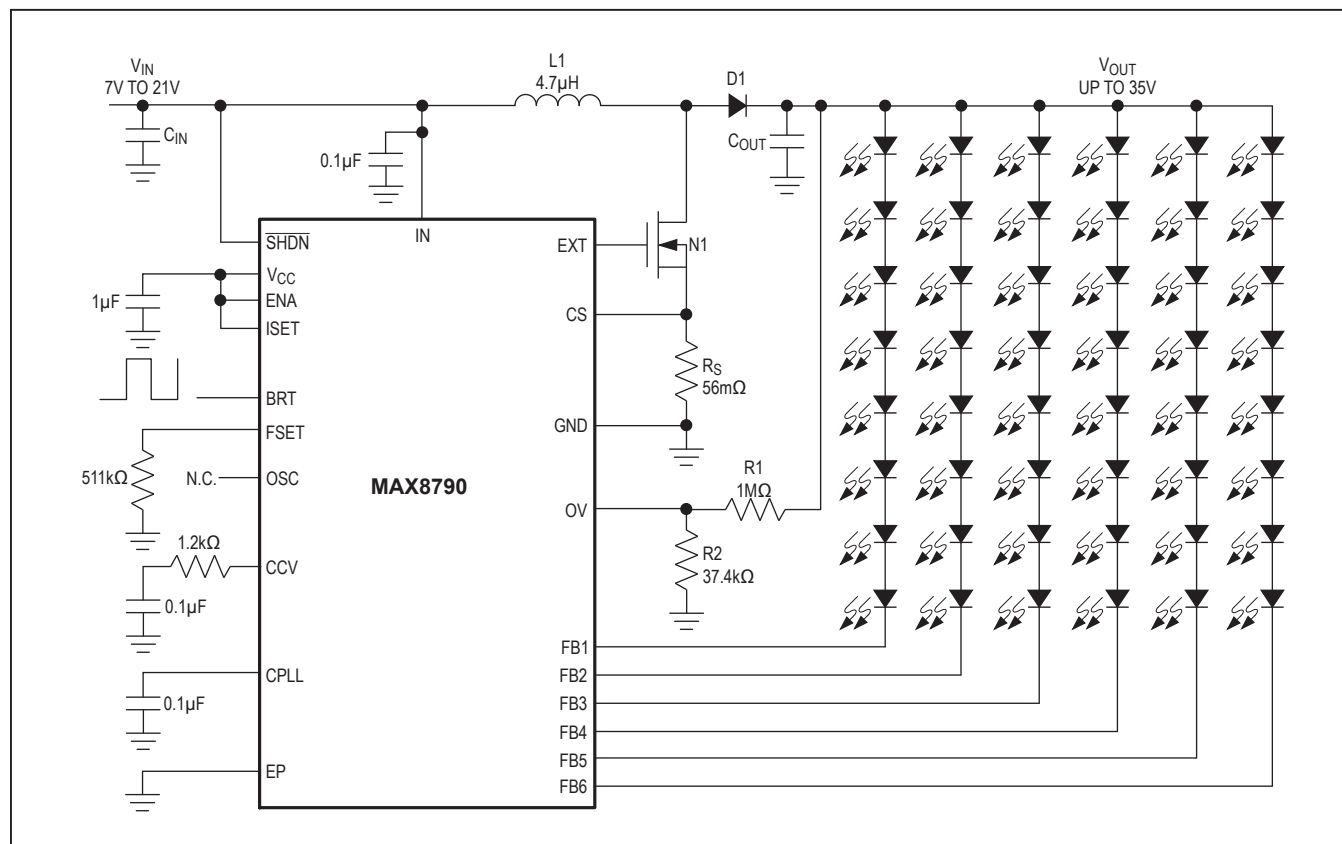

Figure 1. Typical Operating Circuit
(Circuit of Figure 1. $V_{IN} = 12V$, $V_{SHDN} = V_{IN}$, $CCV = 0.1\mu F$, $T_A = -40^{\circ}C$ to $+85^{\circ}C$, unless otherwise noted.) (Note 2)
To protect the step-up converter when the load is open, or the output voltage becomes excessive for any reason, the MAX8790 features a dedicated overvoltage feedback input (OV). The OV pin is connected to the center tap of a resistive voltage-divider from the high-voltage output (see Figure 1). When the MAX8790 is powered up, if none of the LED strings on FB1–FB6 are connected to the step-up converter output, the step-up converter regulates the output voltage to $V_{OUT} = 1.23V(1 + R1 / R2)$. When V_{OV} exceeds 1.23V, a comparator turns off N1. The step-up converter switch is reenabled after the output voltage drops below the protection threshold.